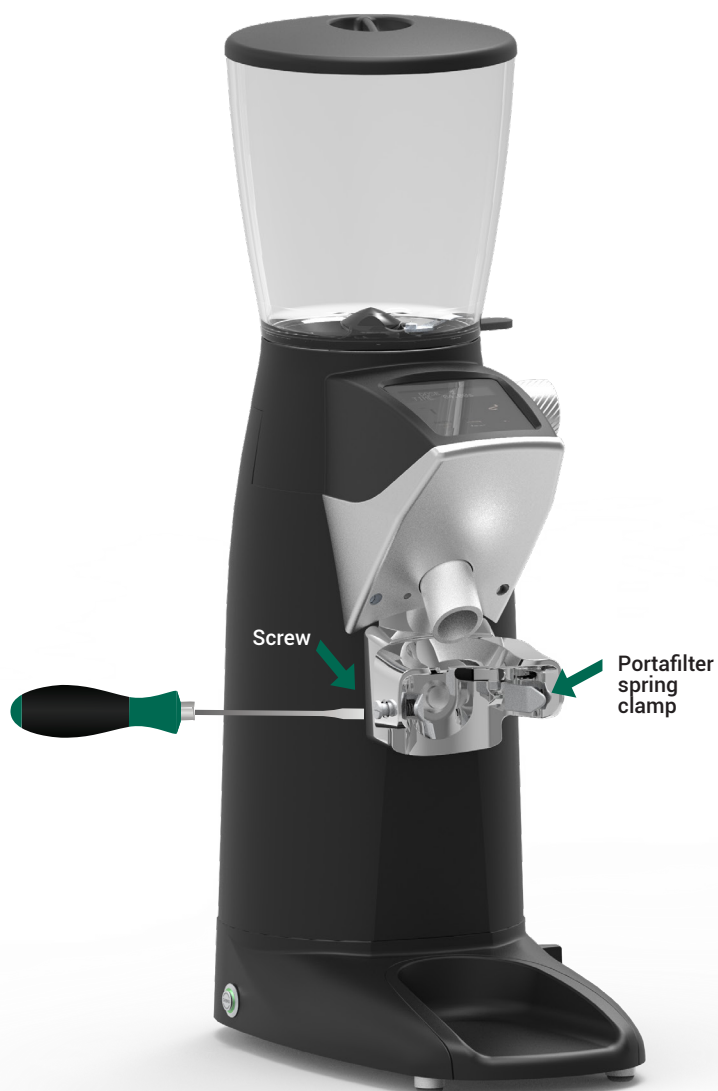

Fig. 3
1. Free portafilter spring clamp, for it must release the screw that secures the fork with the help of a screwdriver (**Fig. 3**).